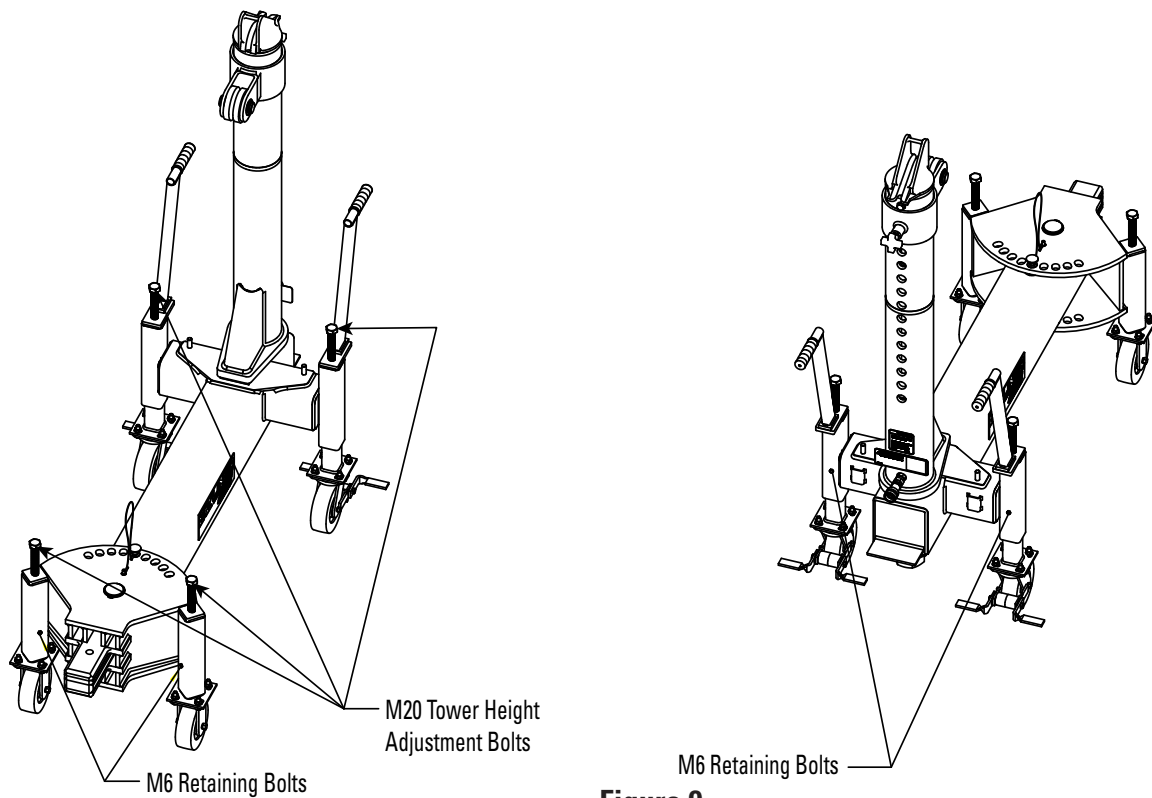

Figure 9
6. Remove the (4) M6 tower leg retaining bolts (see Figure 9).
7. Screw in the (4) M20 tower leg height adjustment bolts so that approximately 2" of the M20 bolt is still exposed (see Figure 9).